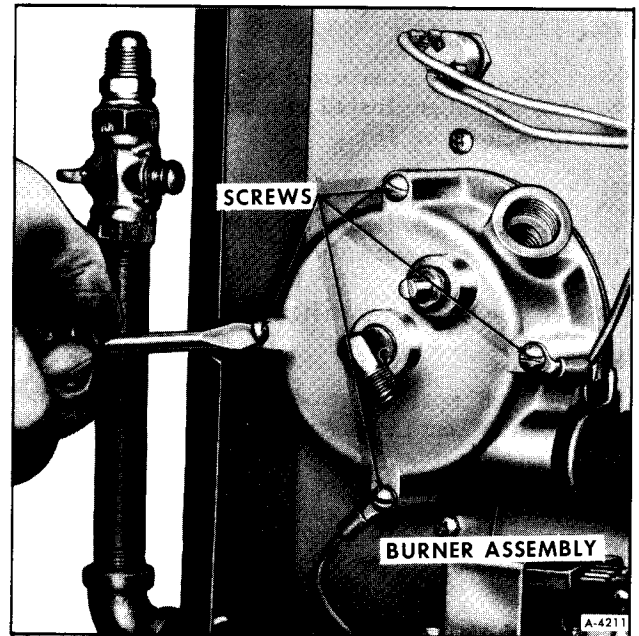

Figure 15—Removing Screws from Burner Assembly
3. Remove four screws retaining burner assembly to heat exchanger (See figure 15).
NOTE: Referring to Figure 15, check which screws have ground connections attached so they will be replaced on proper screws.
2. Install four screws retaining burner assembly to heat exchanger. Be sure ground wires are installed under screws as shown in Figure 15.